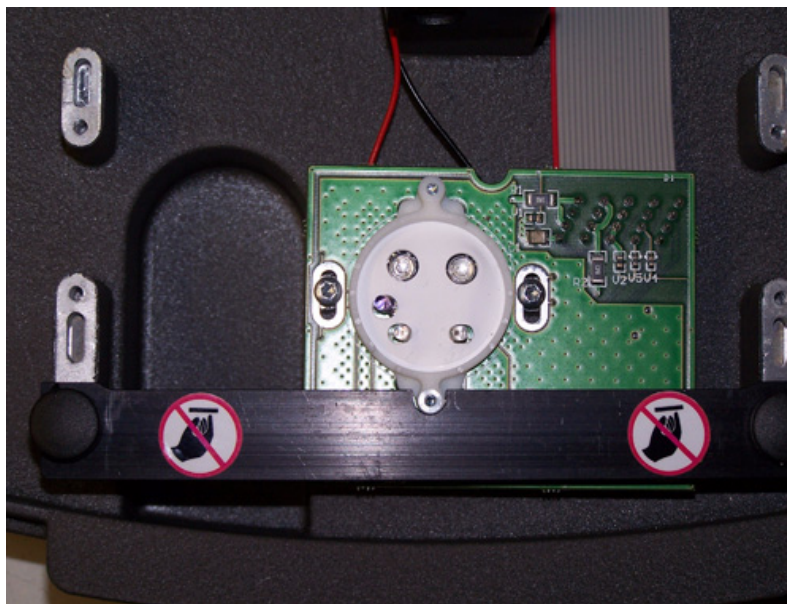

Fig. 16
6. The LED board should now be exposed. (Fig. 16)